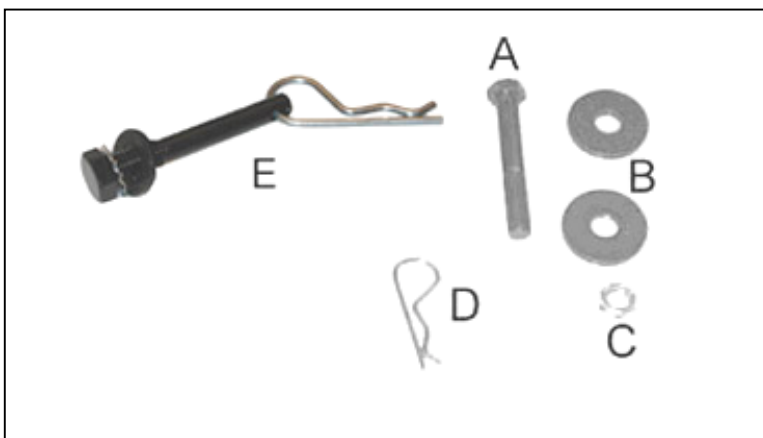

Fig. 2
- Parts bag including (Fig. 2):